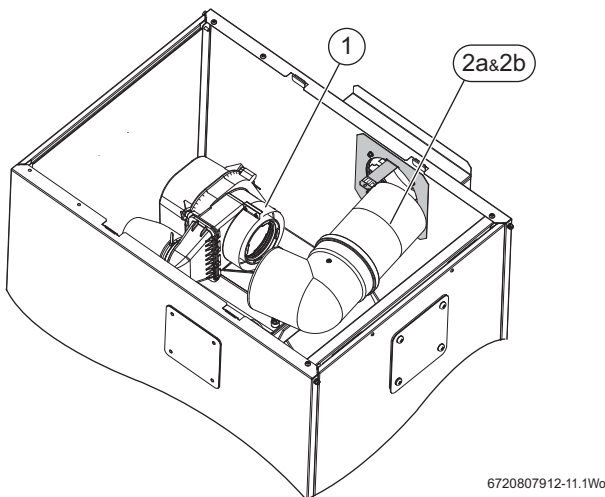

Fig. 11
- ▶ Push the air inlet outer section [3] (see figure 11) through the rear panel opening until the end of the tube is against the stops [4] on the clamp assembly [5].